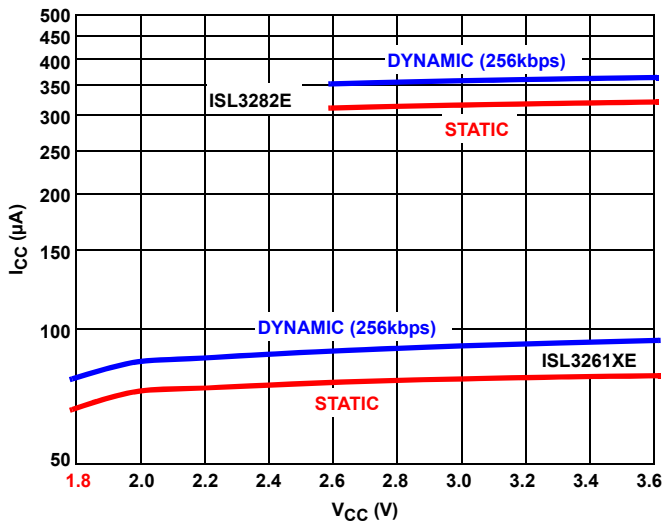

FIGURE 1. ISL3261XE REDUCES OPERATING  $I_{CC}$  BY A FACTOR OF 4 FROM PREVIOUS GENERATION RECEIVER ICs, AND OPERATES WITH SUPPLY VOLTAGES AS LOW AS 1.8V
The ISL32610E, ISL32611E, ISL32612E are ±16.5kV IEC61000 ESD protected, fractional unit load (UL), 1.8V powered, single differential receivers (Rx) for balanced (e.g., RS-485) data communication. With their 85µA supply currents, these receivers are optimized for low power applications, and deliver the lowest supply currents of any available single Rx IC (see Figure 1).